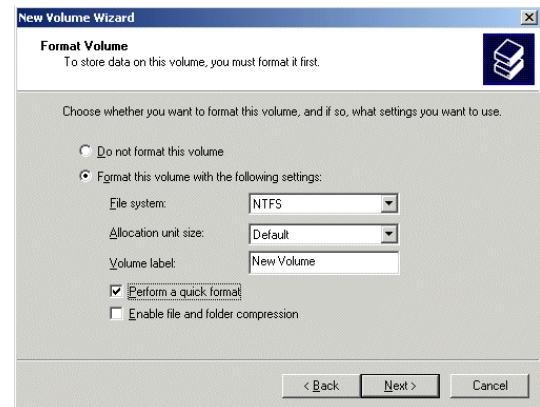

Figure 3-32
- 27) Click the **Next** button to be presented with the **Format Volume** screen. Click the **Format this volume with the following settings** item as shown in Figure 3-32. Ensure that the settings are **File system = NTFS**, **Allocation unit size = Default**, and **Volume Label = user defined** (the default is "New Volume"). Also ensure that the **Perform a quick format** item is selected.